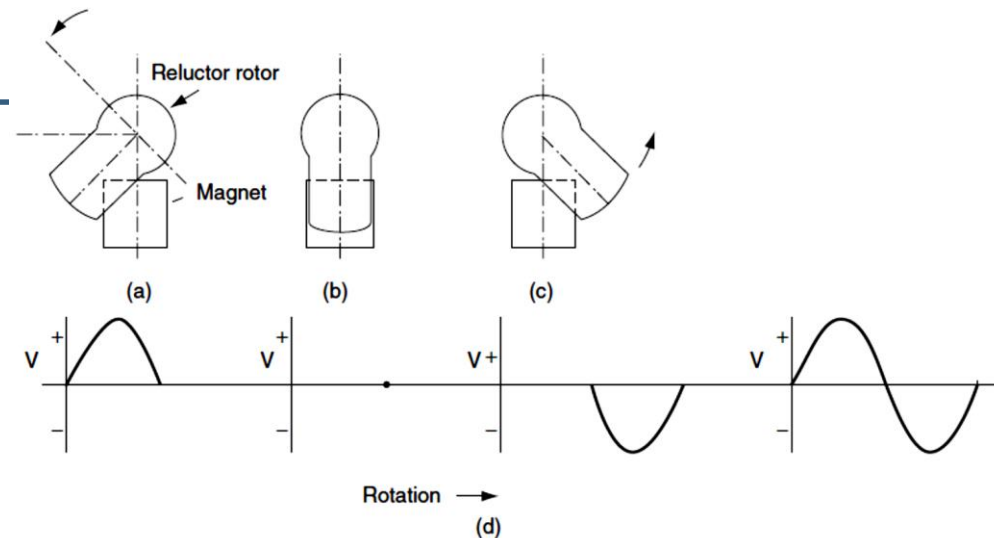

Fig. 5.2 The voltage pattern from a variable reluctance sensor
- As the tab moves into the air gap the flow of magnetism (flux) increases rapidly. This causes the sensor voltage to increase, quite quickly, to a maximum positive value. Figure 5.2 shows the approximate behavior of the voltage output as the reluctor is rotated.
- Figure 5.2(a) shows the reluctor tab moving into the air gap. As the metal tab moves further into the gap the voltage begins to fall and, when the metal tab is exactly aligned with the pole piece, the sensor voltage falls back to zero (Although the magnetic flux is strongest at this point, it is not changing and this means that the voltage is zero.)
- Figure 5.2(b) shows that there is zero voltage when the reluctor tab is in alignment with the pole piece.
- This results in the negative half of the voltage waveform as shown in Fig. 5.2(c). When the tab has moved out of the air gap the sensor voltage returns to zero. While the rotor shaft continues to turn another tab will enter the air gap and the above process will be repeated.
- If the sensor coil is connected to an oscilloscope the pattern observed will be similar to that shown in Fig. 5.2(d).